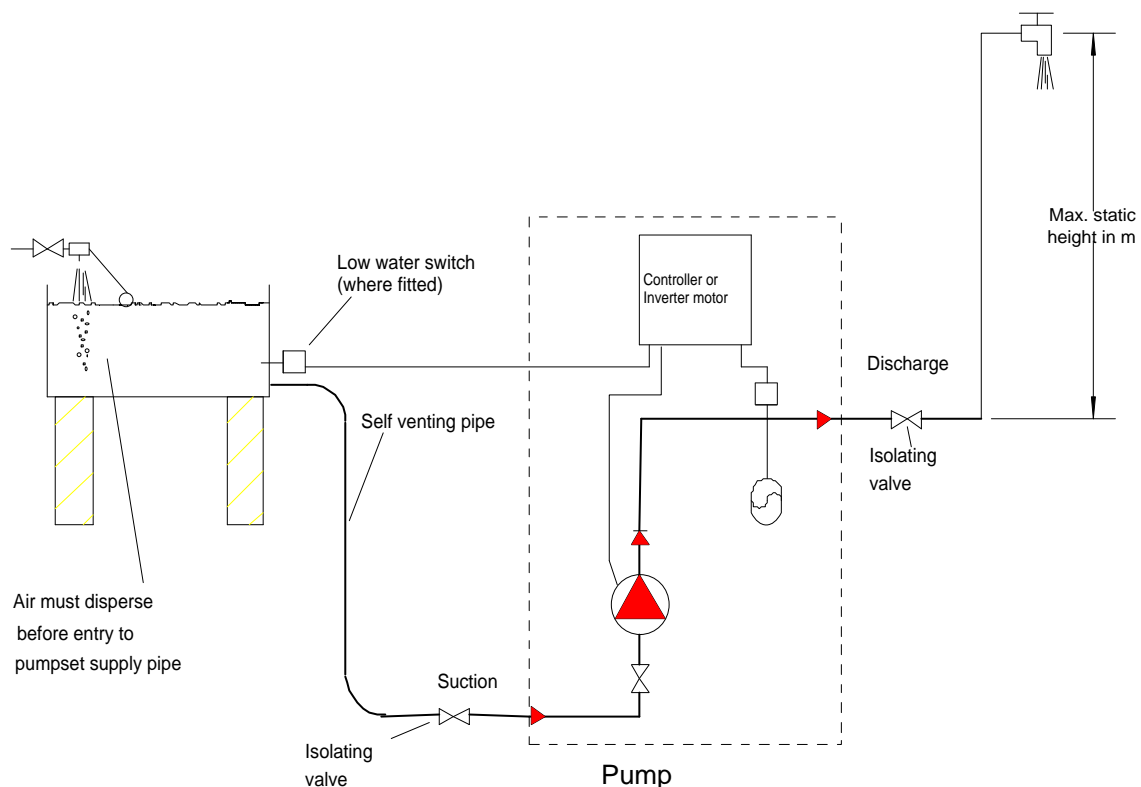

Fig. 1.1 Typical Pipework arrangement
- 1.3.4.2** Arrange the suction pipework to be self venting between the mains water breaktank and the pumpset suction manifold (see fig.1.1).
- 1.3.4.3** Fit isolating valves to the suction side and discharge side of the pumpset (see fig.1.1), to enable the pumpset to be isolated from the system for maintenance purposes.